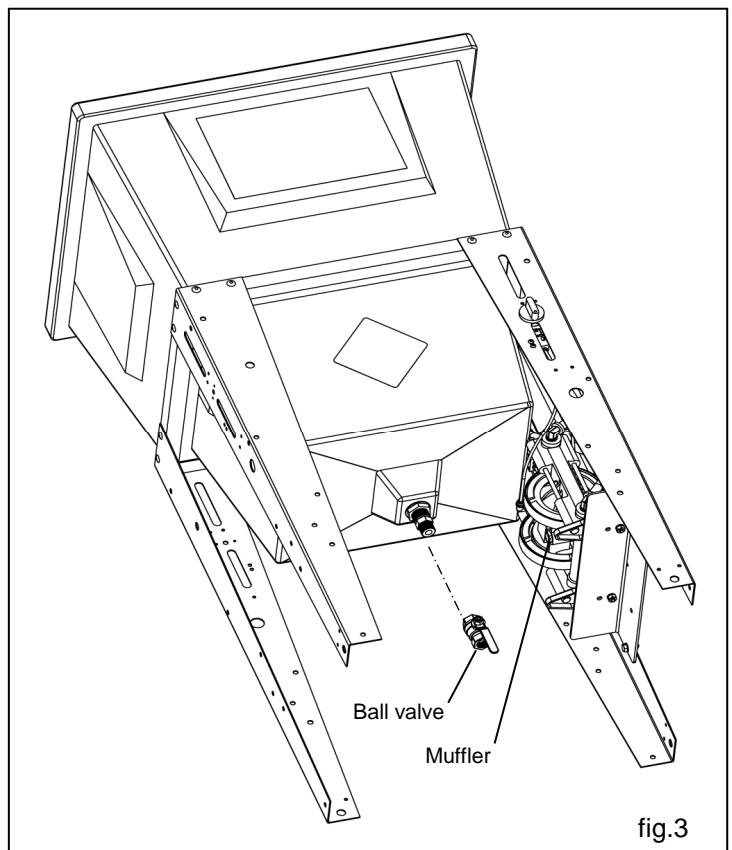

fig.3
Attach the ball valve to the reducing nipple on the bottom of the tub and set tub in the stand [see fig.3]. Use a sealant on the ball valve/bulkhead to avoid leaking. **Ensure bulkhead DOES NOT TURN when tightening.**
Attach the white plastic muffler to the exhaust port of the pump [see fig.3].
Slide (1) #10 flat washer then (1) 1/8" nylon spacer then the timer knob over the shaft protruding from the timer leg assembly [see fig.3].